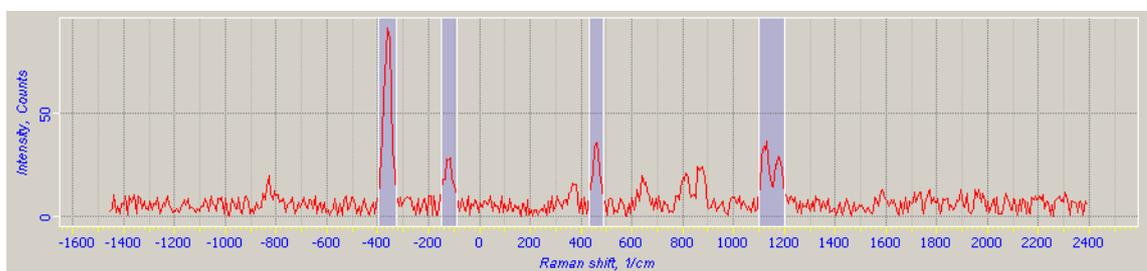

Fig. 10-23. Peaked regions are selected in the spectrum
3. Press the <Ctrl> key. Holding the key pressed, highlight with the mouse the desired regions around peaks in the collected spectrum (Fig. 10-23) (the procedures on spectrum acquisition with the Andor and Renishaw cameras are explained in sec. 10.3.1 on p. 63 and in sec. 10.3.2 on p. 65, respectively).